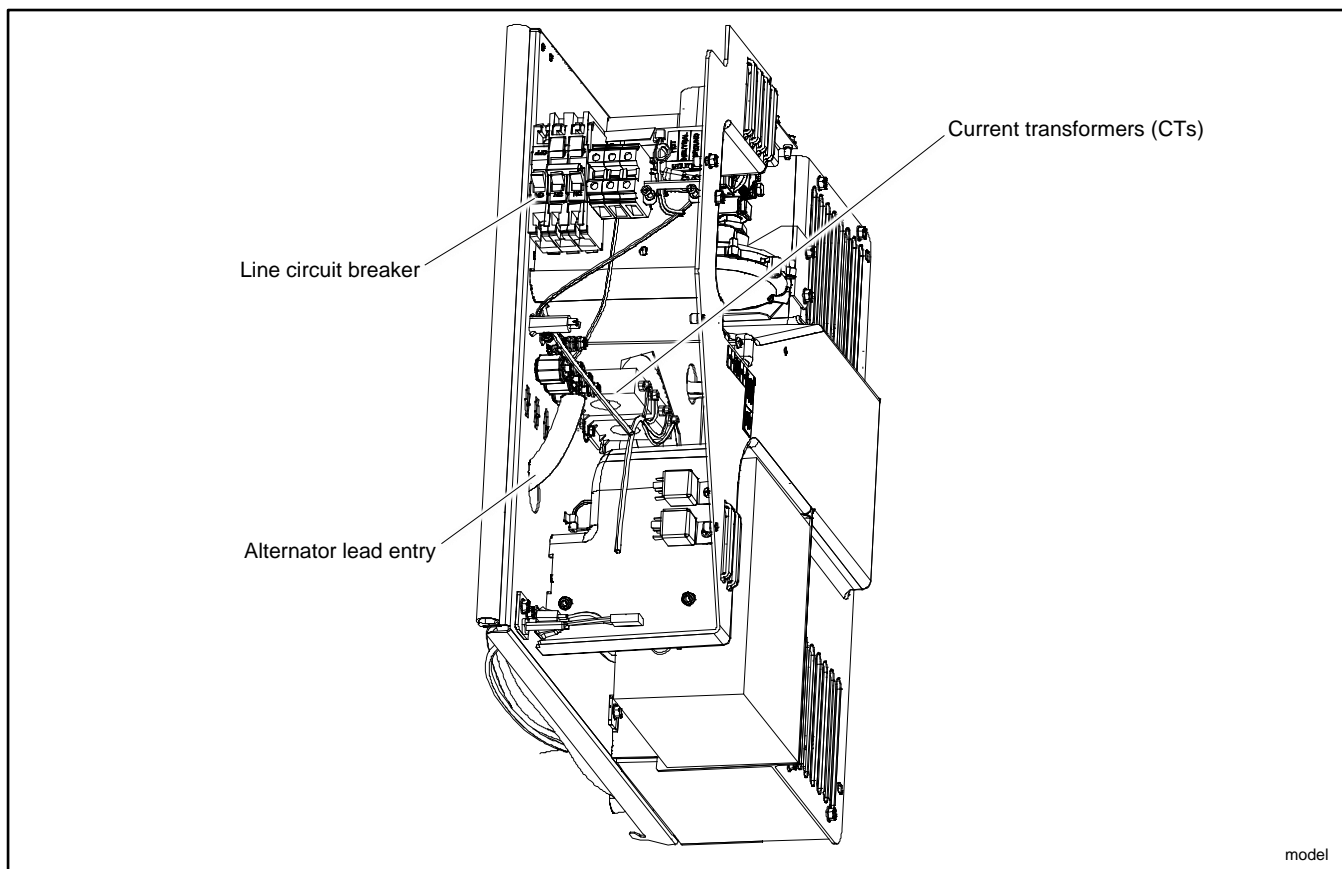

Figure 26 Component Locations (cover panels removed for access)
4. To gain access to the alternator leads and CTs, remove the circuit breaker cover and the controller panel. Be careful of the controller connections when removing the controller. See Figure 26.